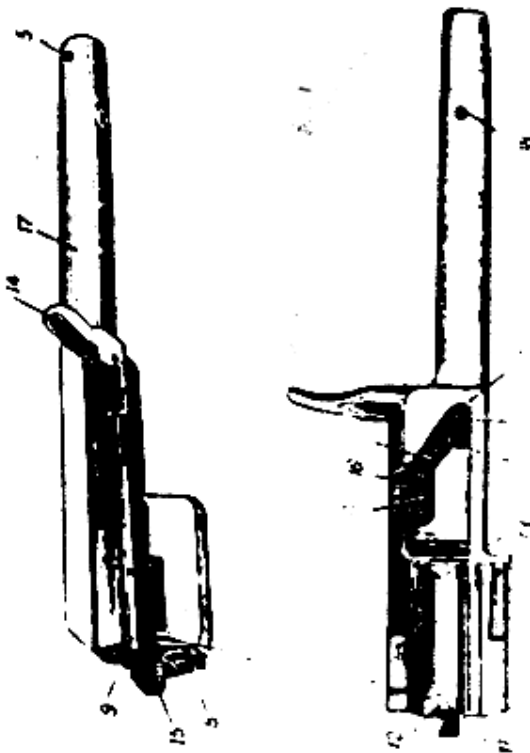

Figure 28. Operating rod (3-1).
The operating rod (fig. 28) has a lug in the rear portion with cylindrical channel (8) in which the rear end of the bolt is installed. In the sides of the lug there are grooves (9) which guide the operating rod in the receiver.
The connecting lug has a shoulder (1) which retains the rear end of the return spring; guide lugs (2) for holding the connecting lug in the receiver grooves; lug (3) for holding the receiver cover; recess (4) for lug (15) (see fig. 28) of the operating rod as it moves to the extreme rear position. In the guide there is a channel (5) for guiding the guide rod.
The full automatic sear is provided with a lever (1) on the upper end of which acts the full automatic sear disconnector (see fig. 28) when the operating rod is moving to the extreme forward position; the full automatic sear (2); hole (3) for pin; hole (2a) for connecting the short end of the full automatic sear spring.